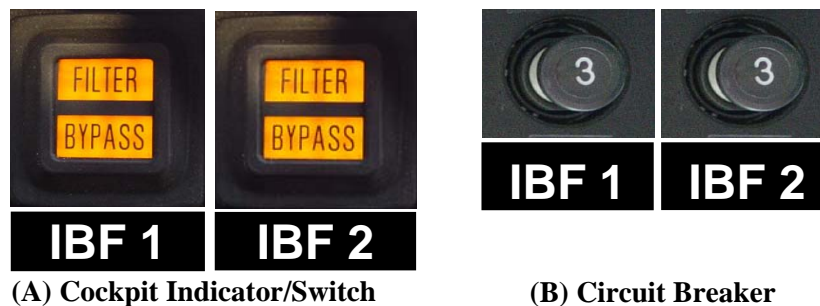

Figure 6-2: IBF BYPASS SWITCH AND CIRCUIT BREAKER MARKINGS
- a. A cockpit indicator/switch for each engine inlet IBF bypass system is located on the center console (instrument panel) within view and easy reach of the pilot and a 3-amp circuit breaker for each engine inlet IBF bypass system circuit is located in the overhead console. As shown in Figure 6-2(A)/(B) markings include an “IBF1” or “IBF2” label below or above the applicable cockpit indicator/switch and circuit breaker.